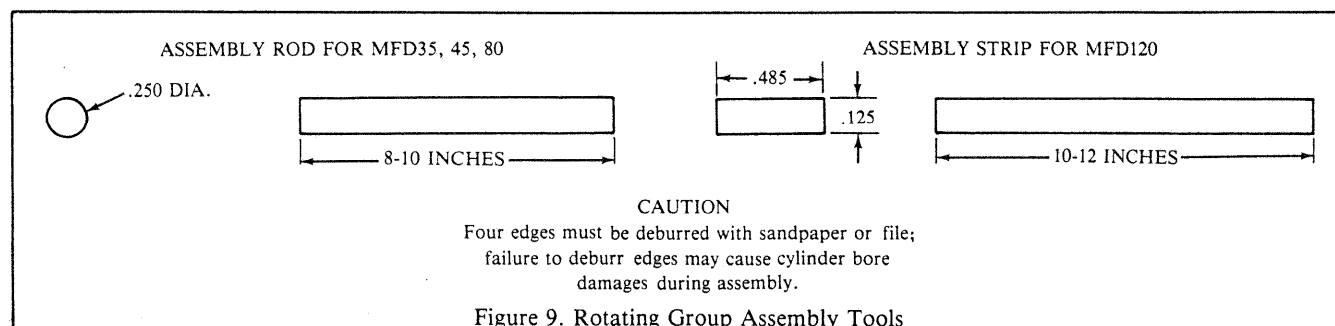

Figure 9. Rotating Group Assembly Tools
9. Rotating group assembly tools (Figure 9)